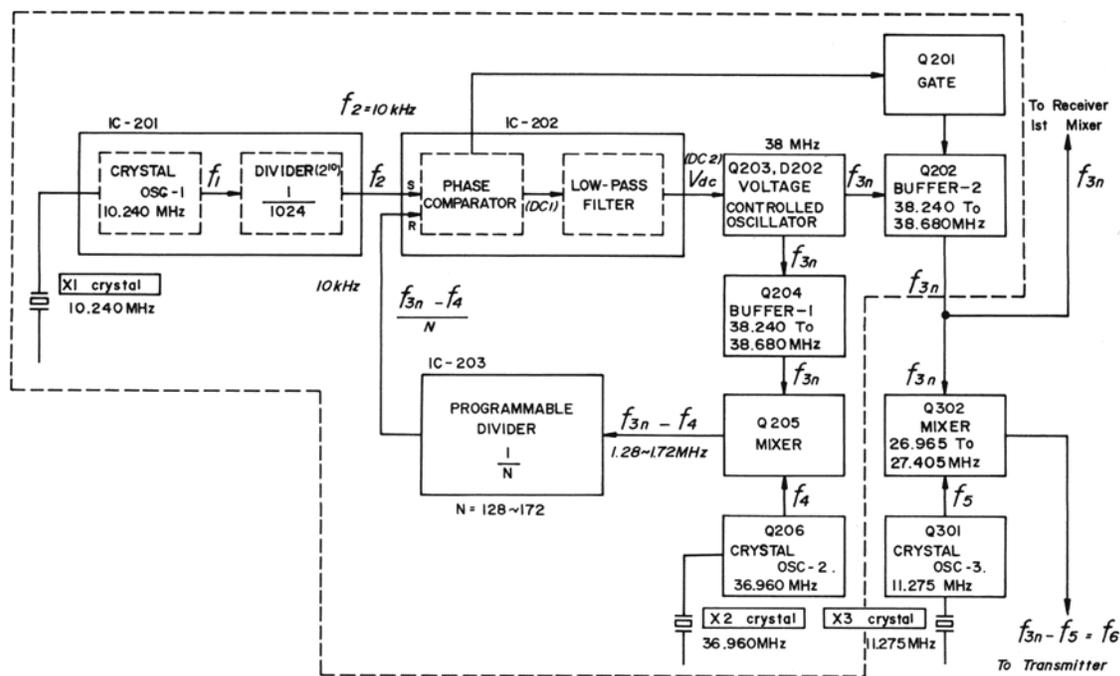

Figure 2 P.L.L. CIRCUIT FREQUENCY SYNTHESIZER
A DESCRIPTION OF PHASE-LOCKED-LOOP (P.L.L.) CIRCUIT (Figure 2)
IC-202, the voltage controlled oscillator (or V.C.O.) Q203, the buffer amplifier Q204, the mixer Q205 and the programmable divider IC-203 as shown in Figure 2.
3) Frequency Determining (Refer to Figure 2)